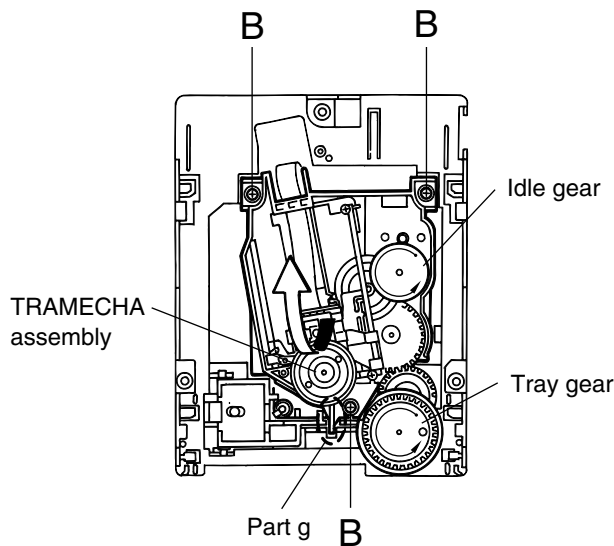

Fig. 6
■ Removing the TRAMECHA Assembly (Refer to Figs. 6 to 9.)